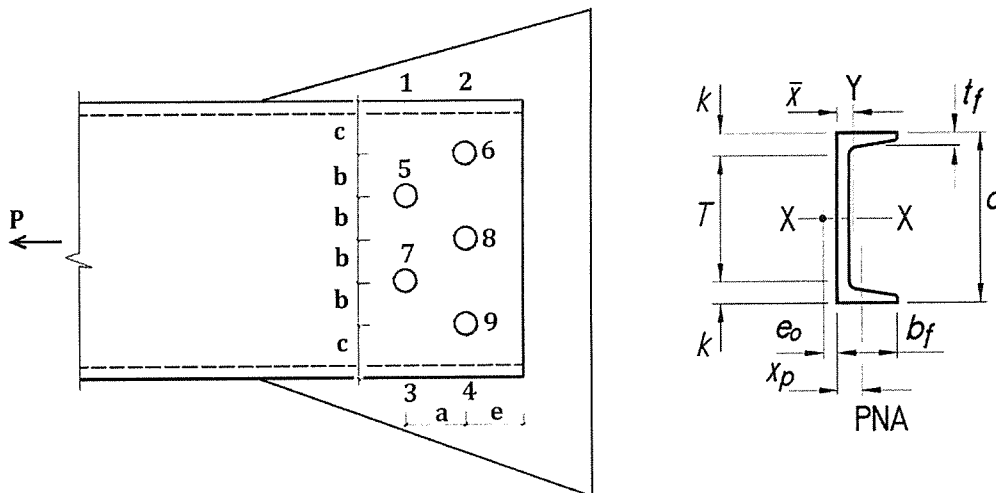

Figure 1
Determine the design tension capacity (P) of the channel section C15×40 attached to a gusset plate with the bolt configuration shown in **Figure 1**. The material is A36 ($F_u = 58$ ksi) steel and bolts are 5/8- inch dia. with standard holes. Neglect block shear failure, and assume the gusset plate and bolts have adequate strength against tension. [14]